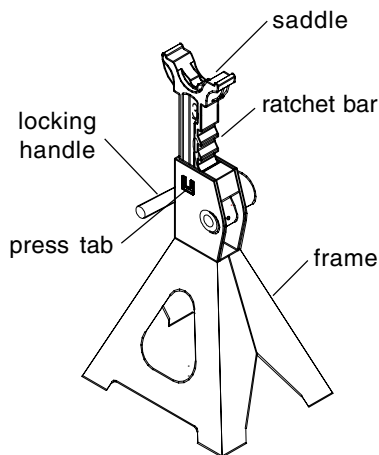

Figure 1 - SUV/Truck Jack Stand Nomenclature
2. Verify that the product and the application are compatible, if any doubt call Pro-Lift Customer Support @ (816)891-6390.
6. Ratchet/collar lock is accomplished by simply moving the press tab (Fig. 1) inward using a suitable hammer and punch. This will effectively prevent inadvertent loss of the ratchet bar.